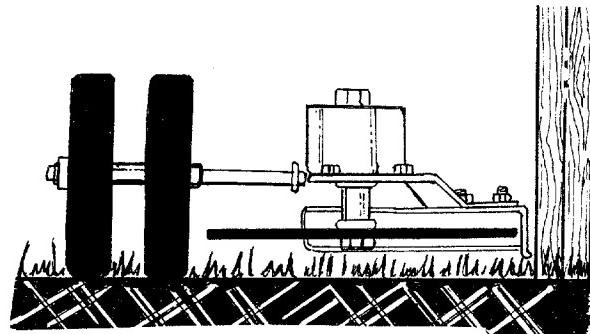

FIGURE 19
- To operate the unit as a trimmer, move the adjustment lever and rotate the cutting blade 90°. See figure 19. Move the front wheels all the way to the right, as described in the Control section.